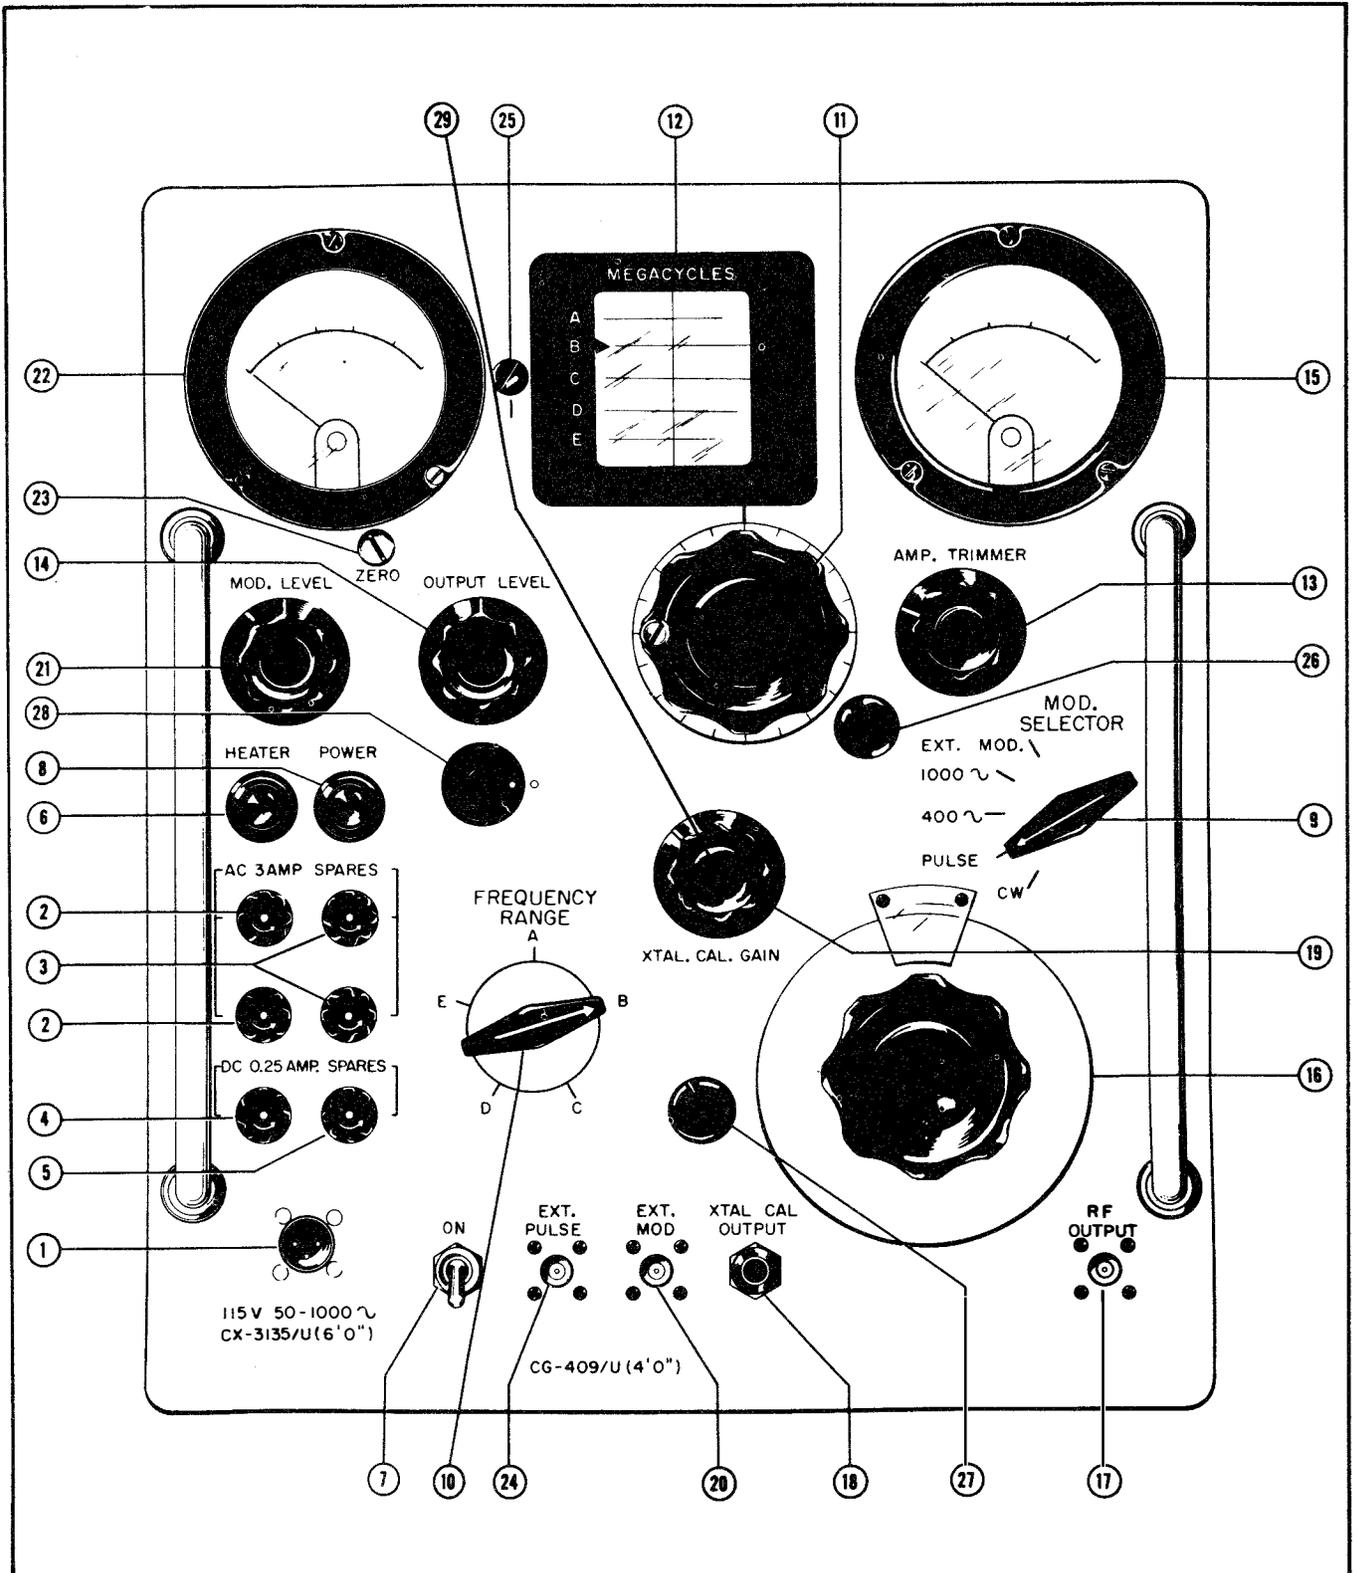

Figure 1-3. Signal Generator TS-510/U, Front Panel Controls
- in figures 1-3 through 1-3B. A simplified block diagram showing which circuits are affected by various front panel controls is shown in figure 1-4.